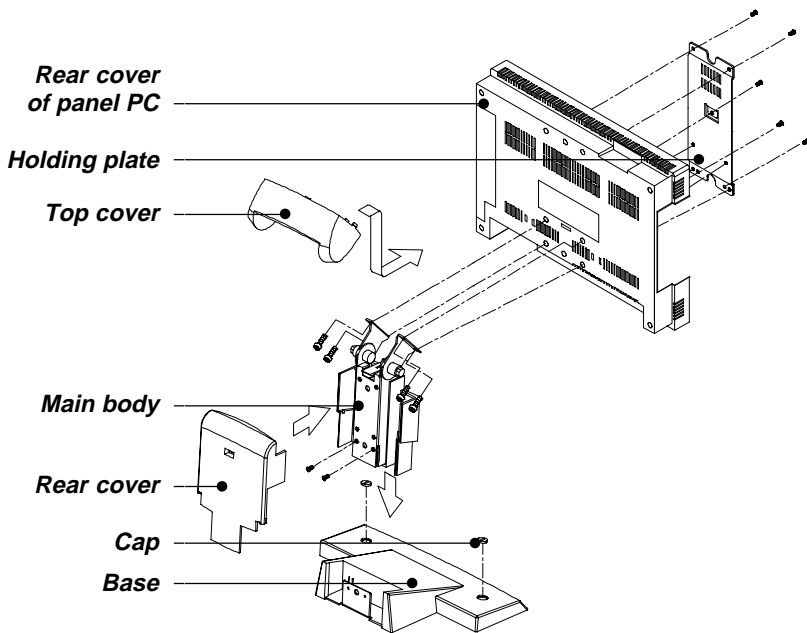
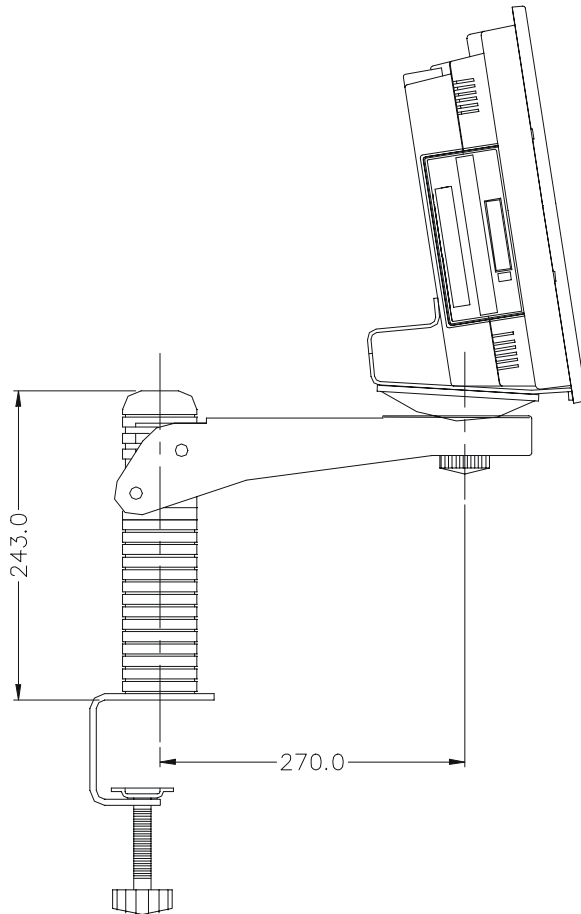

Figure E-4: Desktop stand mounting
Figure E-5: Swingarm stand mounting
2. Attach the holding plate of the stand to the inside of the rear cover of the panel PC using the five screws provided. (See Fig. E-4) The PPC-153 can be mounted on a unique swingarm. This versatile accessory is easy to install and operate, and can be rotated through a wide range of angles. Its dimensions are shown in Figure E-5 below, and it is available from Advantech Co., Ltd..)
The PPC-150 can be mounted on a unique swingarm. This versatile accessory is easy to install and operate, and can be rotated through a wide range of angles. Its dimensions are shown in Figure E-5 below, and it is available from Advantech Co., Ltd.